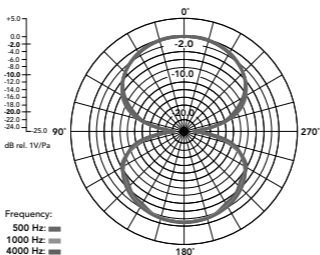

Figure 8
- When in the Figure 8 position (fully clockwise), the microphone picks up sound from in front and behind, and rejects sound from the other two sides. This pattern is commonly used for interviews (2 people with the microphone between them) or in conjunction with a cardioid microphone to use the MS (mid-side) stereo recording technique.